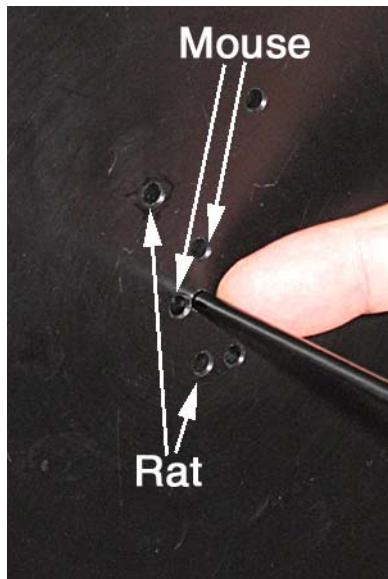

Figure 7-28
For geometry calibration, use the alignment jig in Figure 7-28 mounted on the outside of the collimator mounting plate.
The jig has holes into which an isotope holder tube is pushed (Figure 7-28). The block on the end of the tube ensures that the isotope is centered over the detector panels when pushed flush against the jig. This ensures all 32 slices are axially covered.
The center hole (with isotope tube inserted into it on jig as shown in Figure 7-28) is normally used only for energy and uniformity correction. The other holes, however, will be used for geometry correction. For mouse and rat specimens, the choice of holes will be different, as marked in the photo.
- 1.) Load Co-57 line source into the isotope tube. Ensure the isotope tube is placed in one of the holes designated for the appropriate type of specimen (rat or mouse) as shown in Figure 7-28, and the isotope tube block is flush with the jig. (Figure 7-32)